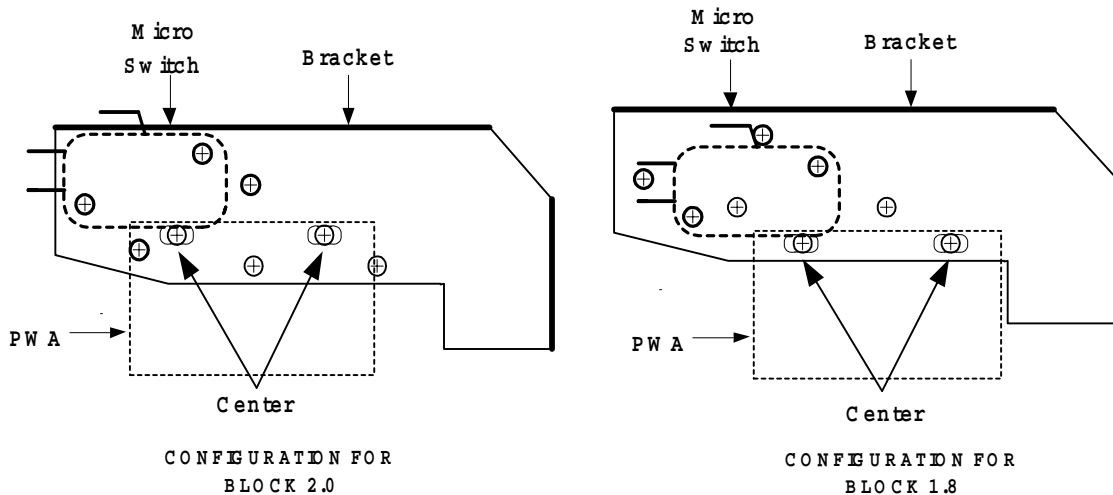

Figure 1
25. From the LFPS2 KIT, STERRAD® 100S, USA (05-50559-0-002), Sensor/Safety switch assembly, Door, Top (03-50409-1-001), locate the bracket (31-50401-001) and the PWA, Sensor, Door (04-00975-001). Assemble the PWA on to the Bracket using two M3 x 6mm screws and flat washers supplied in the kit. Make sure that the mounting screws are centered on the mounting slots of the PWA, and it is in the proper location for the machine version (block 1.8 or 2.0) as depicted in figure 1.
26. From Sensor/Safety switch assembly, Door, Top (03-050409-1-001), mount the Micro Switch (57-50410) on to the bracket using two M2.5 x 25mm screws supplied in the kit. Make sure the switch is mounted in the appropriate location for the machine version (Block 1.8 or 2.0). See figure 1.